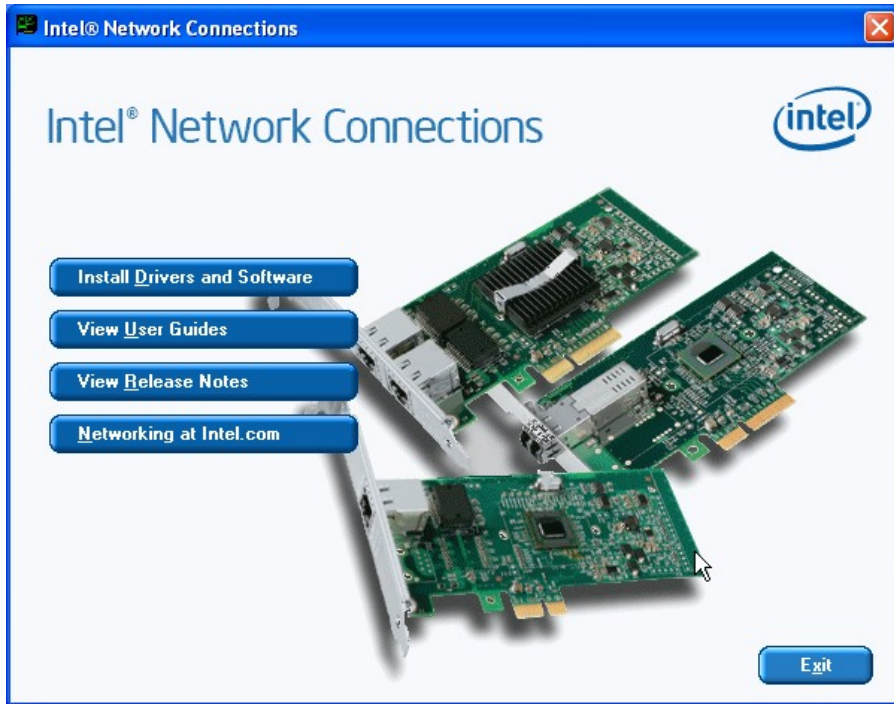

Figure 6-14: Intel® Network Connection Menu
Step 4: The Intel® Network Connection menu in **Figure 6-14** appears.